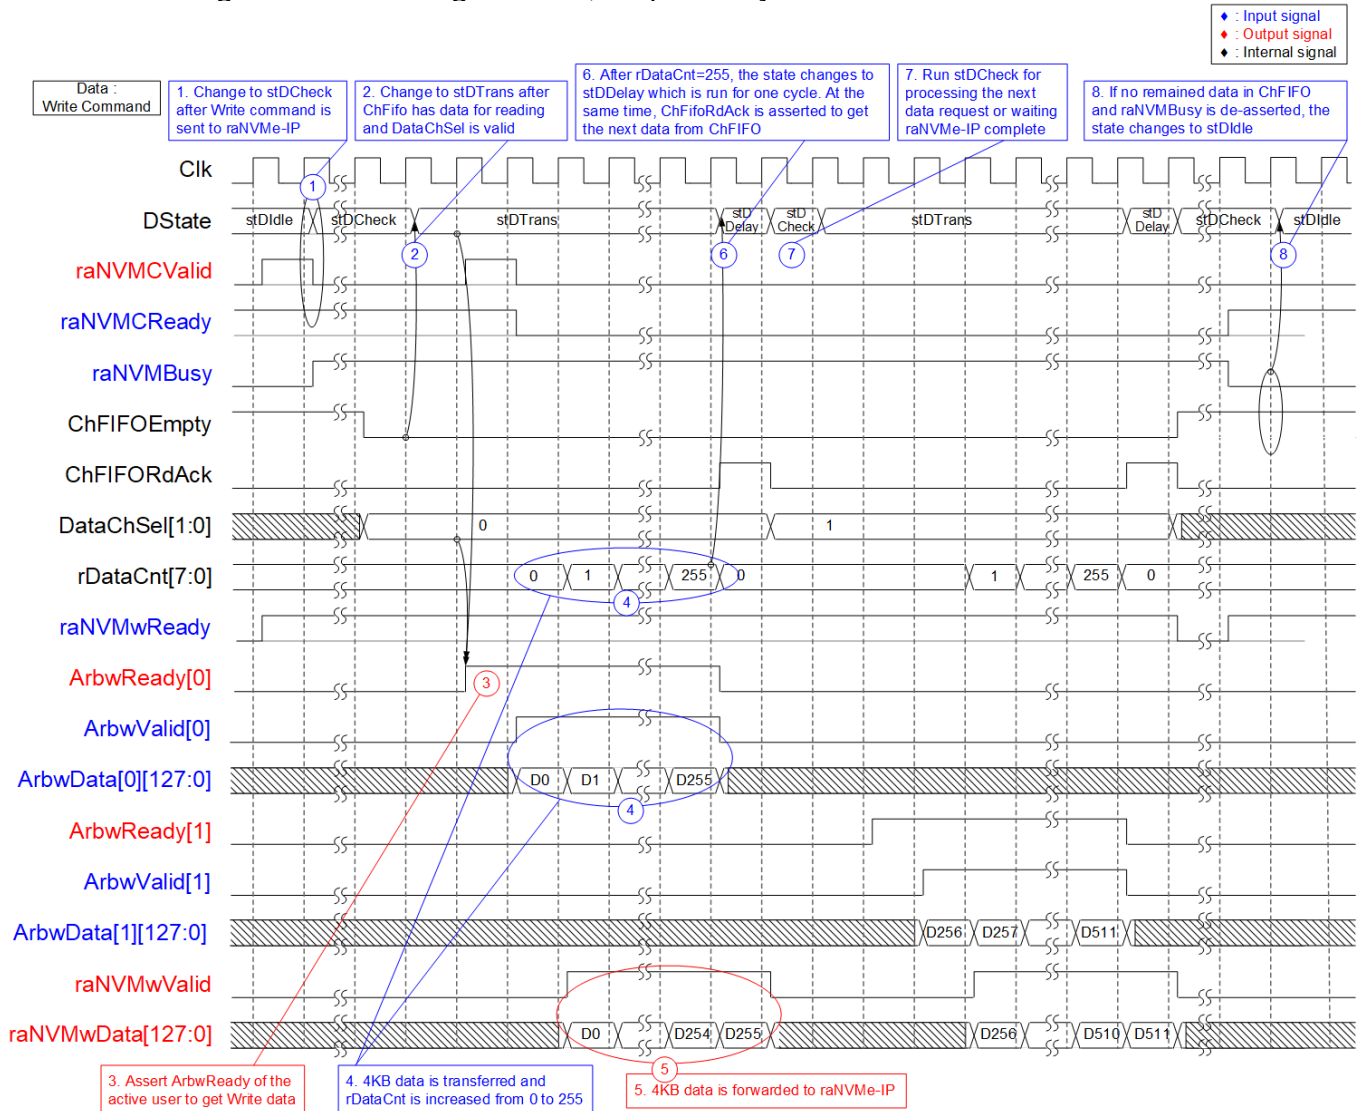
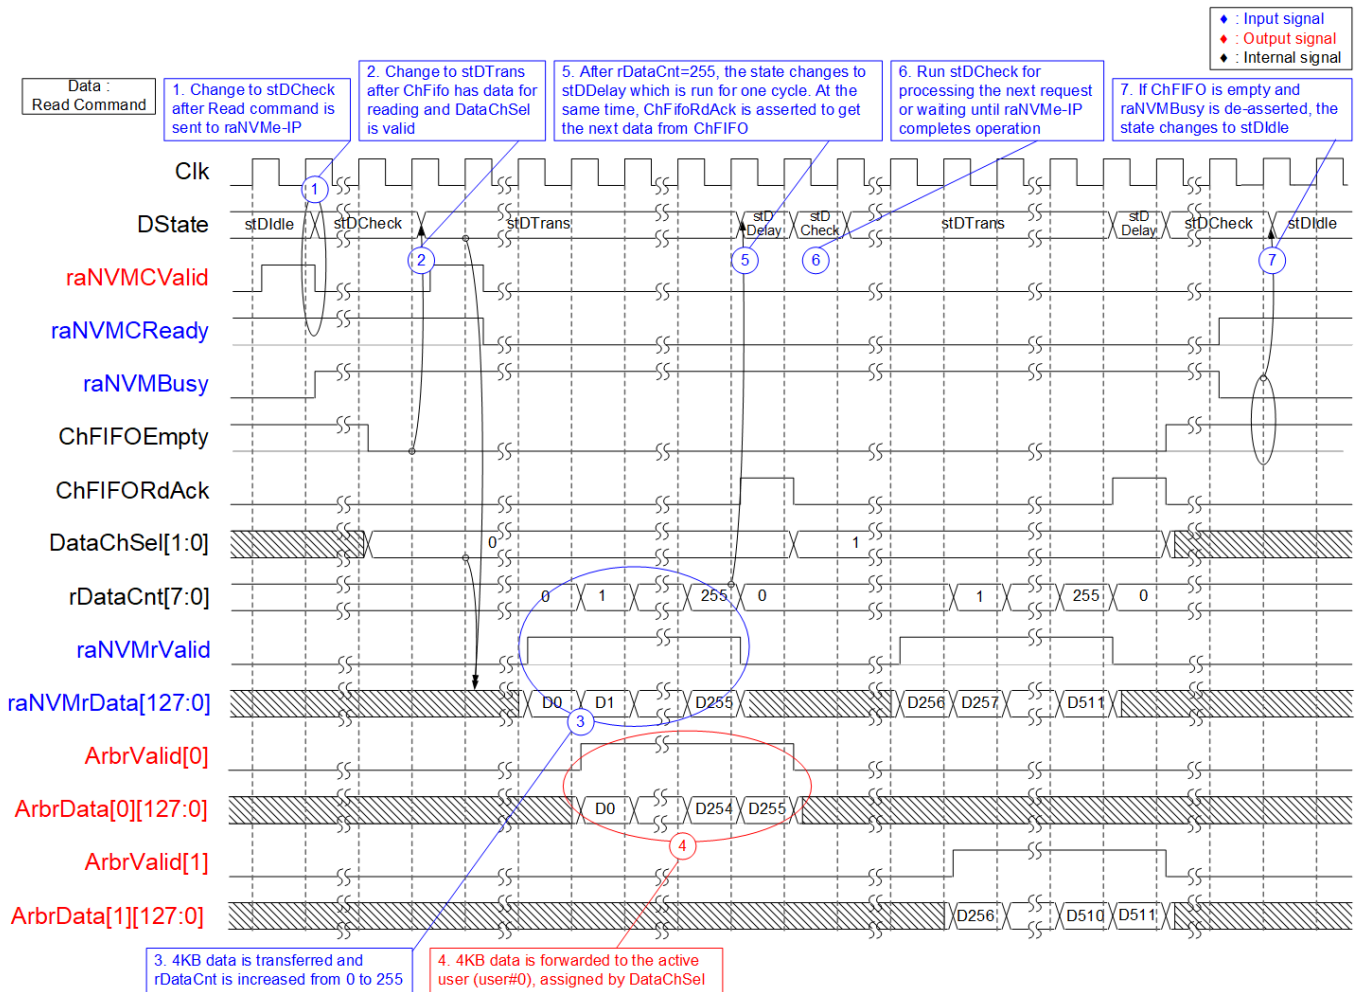

Figure 2-13 Timing diagram of raArbiter's Data I/F when running Write command
Figure 2-14 Timing diagram of raArbiter's Data I/F when running Read command
Timing diagram of Data interface when running Write command and Read command are shown in Figure 2-13 and Figure 2-14, respectively.
- 1) In stDIdle, it waits until multi-mode command is sent to raNVMe-IP. In Figure 2-13, when raNVMCValid and raNVMCReady are asserted to '1' with setting raNVMCCmd to be Write command, the state changes to stDCheck to start transferring data from the user to raNVMe-IP. At the same time as sending Write command to raNVMe-IP, Command block writes the active user number to ChFIFO. Assume that user#0 sends Write command and then user#1 sends Write command.